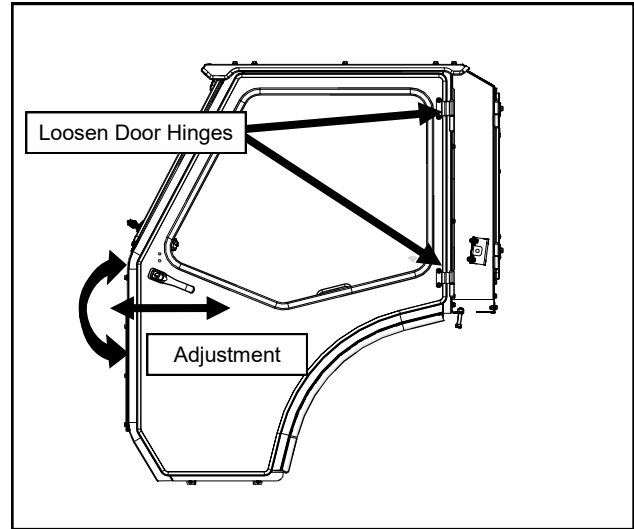

Fig. 25.2a (Door Hinge Adjustment)
25.2 Loosen the door hinges to allow for adjustment later. Hang the left door on the hinges. While lifting up and forward on the door handle, line up the door latch with the striker pin and carefully attempt to latch. You should be able to hear 2 clicks as you slowly engage the latch on the pin. If the latch is too far forward or back to latch on the pin, adjust as shown. See Figures 25.2a through 25.2c. Then retighten and latch.